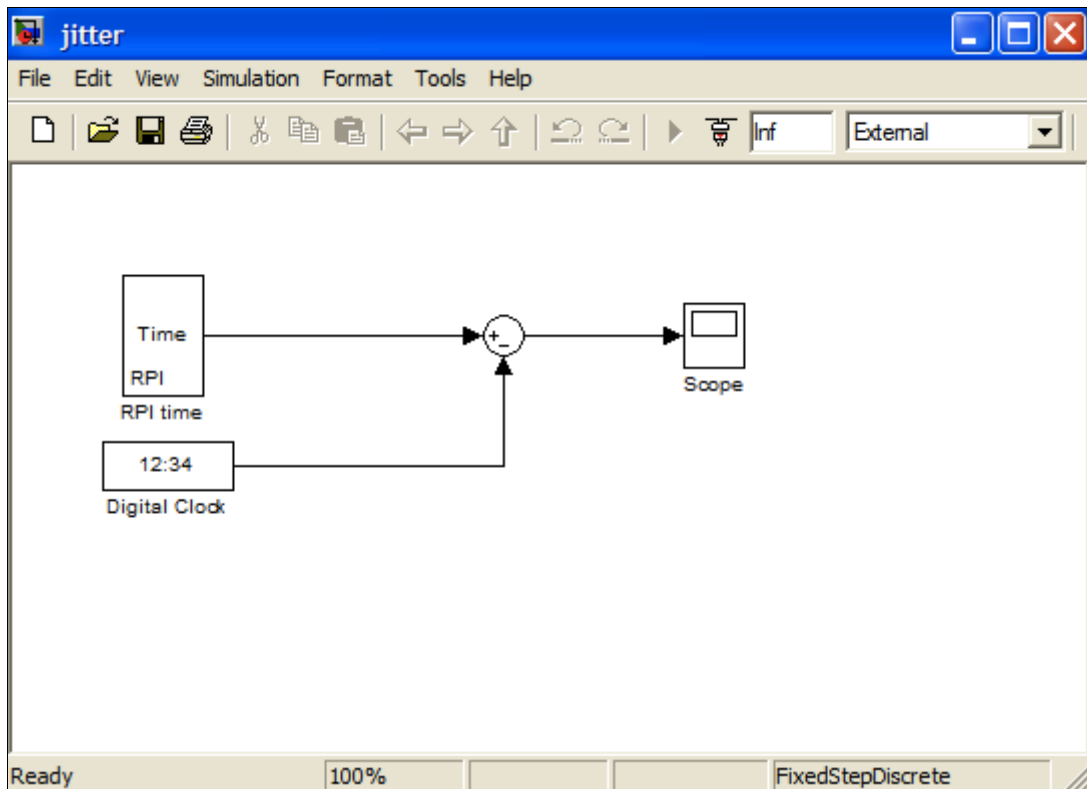

Figure 21 - The jitter demo model
1. Go into the "demo" directory and open the "jitter" model (Figure 21).